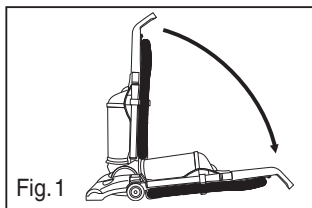

Fig. 1
- 1) Step on handle release to lower handle flat onto floor (Fig.1).